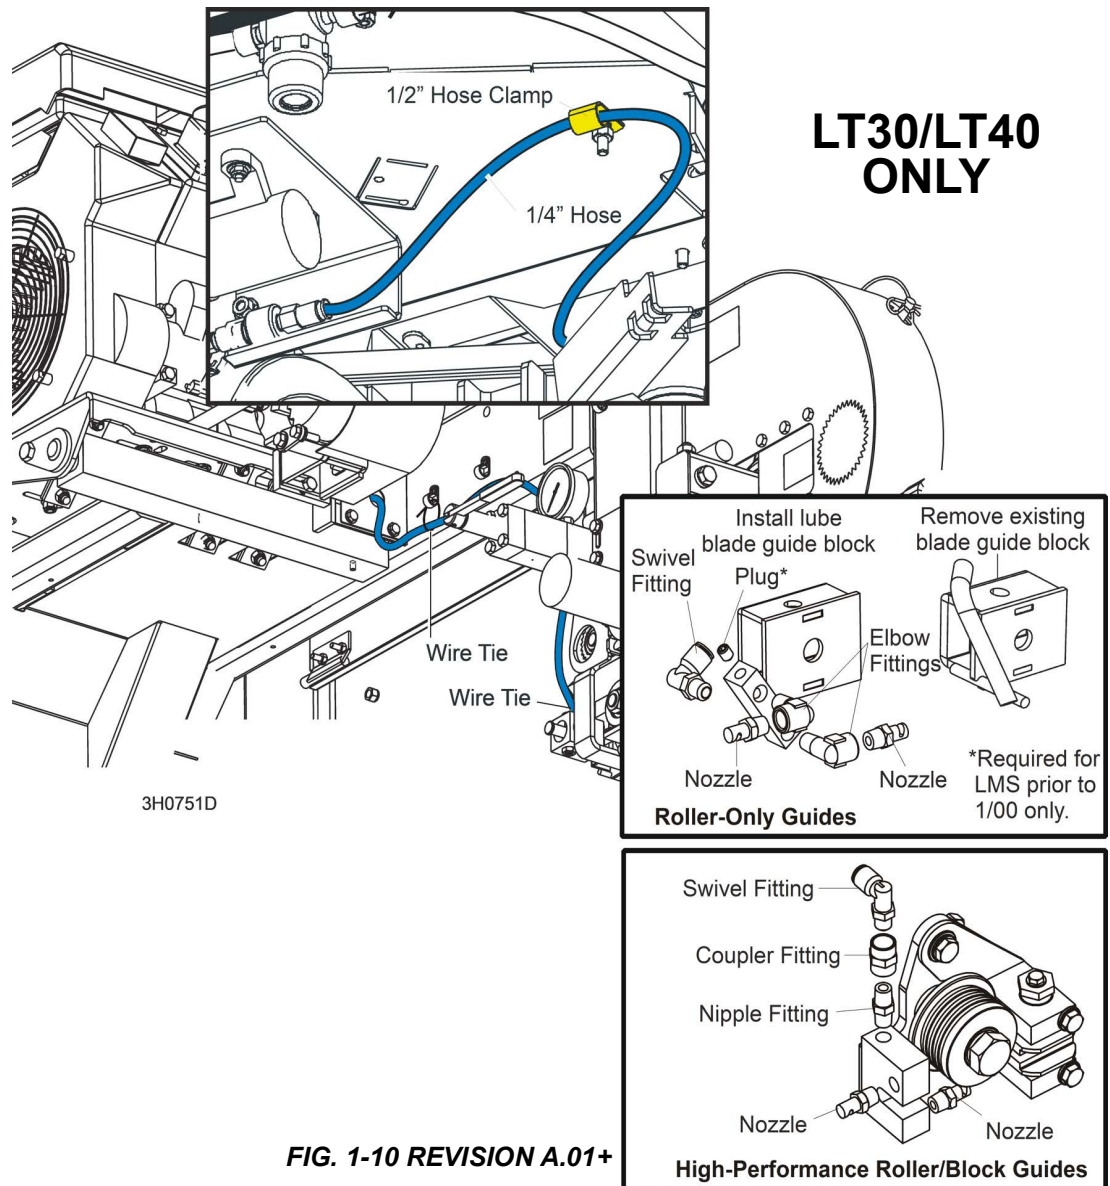

FIG. 1-10 REVISION A.01+
5. Wrap the threads of the provided fittings, nozzles and plug with teflon tape (pipe tape) and install the components to the blade guide block as shown in FIG. 1-10. (An extra nozzle is provided for service replacement.)
8. Locate the provided 1/4" hose. Insert one end to the pump valve as shown in FIG. 1-10.